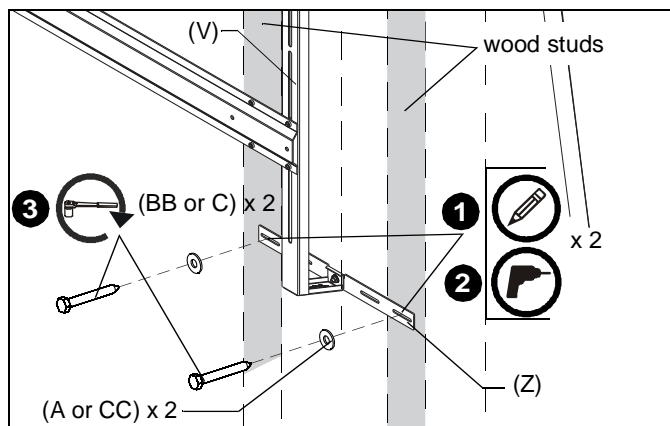

Figure 12
- Mark the wall over wood stud through the lower wall bracket (Z) on each upright assembly. (See Figure 12)
- Drill one 1/8" pilot hole at each mark. (See Figure 12)
- Use two 1/4-20 x 2-1/2" lag bolts (BB or C) and two 1/4" flat washer (A or CC) to attach each lower wall bracket (Z) to wall. (See Figure 12)